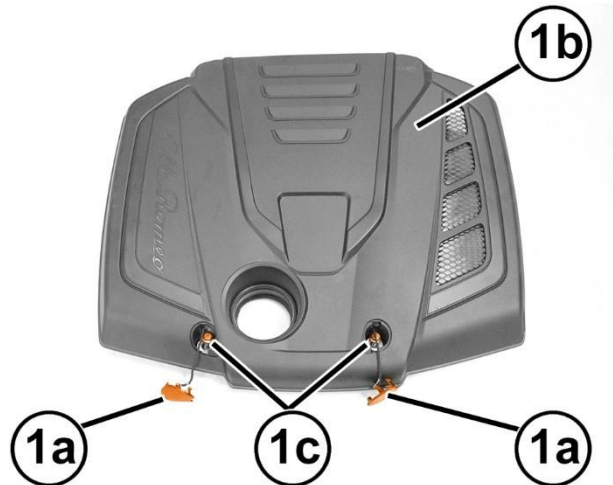

Figure 87 – Soundproofing Cover
- 18. Disengage covers (1a) of the cover (1b) and remove the screws (1c) (Figure 87).
- 19. Disengage from the rear retaining pins and remove the soundproofing cover (1b) complete with seal (2a) for the engine oil (Figure 87).